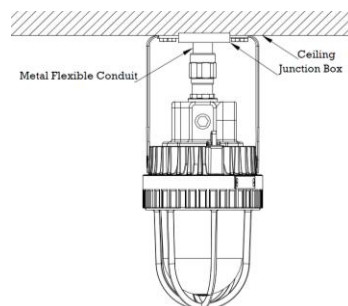
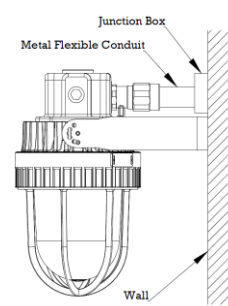

Figure 1
Figure 2
- ☞ The mount bracket is for the use of both wall mount (Figure 1) and hanging mount (Figure 2).